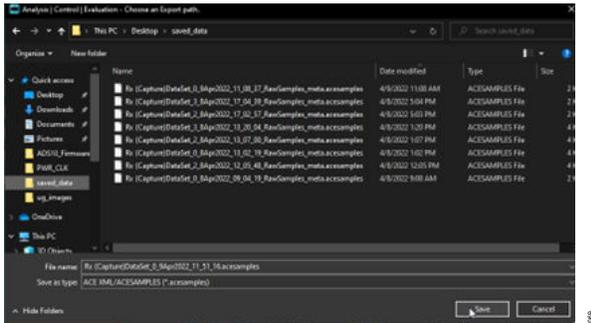

Figure 66. Selecting FFT in Analysis Window
- ▶ If captured from the ACE Software, Export the data and store it in the following location: C:\Users\adiguest\Desktop\saved_data. Ensure that you note the file name under which the data is saved (see Figure 66).